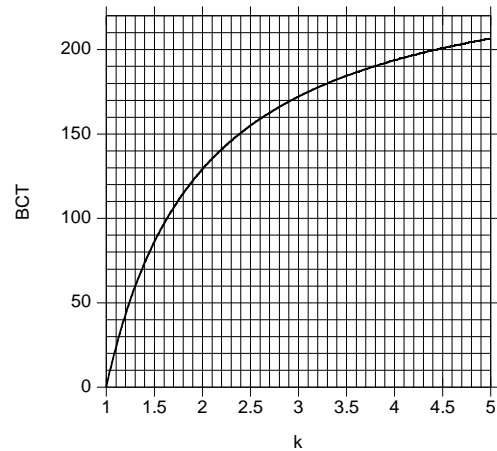

Figure 6: Relation between the *k* Ratio and the Optimum BCT to Recover Linearity
Equation (2) is plotted in Figure 6.